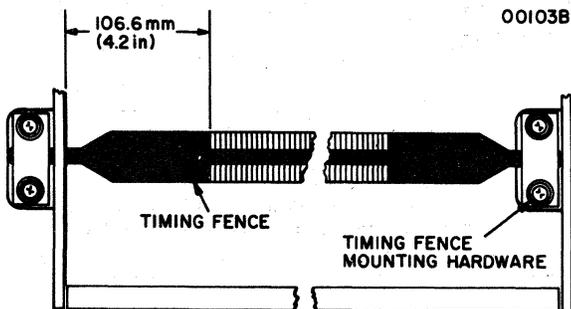

Figure 6-2 Timing Fence Adjustment
6.2.2 TIMING FENCE ADJUSTMENT—Refer to Figure 6-2.